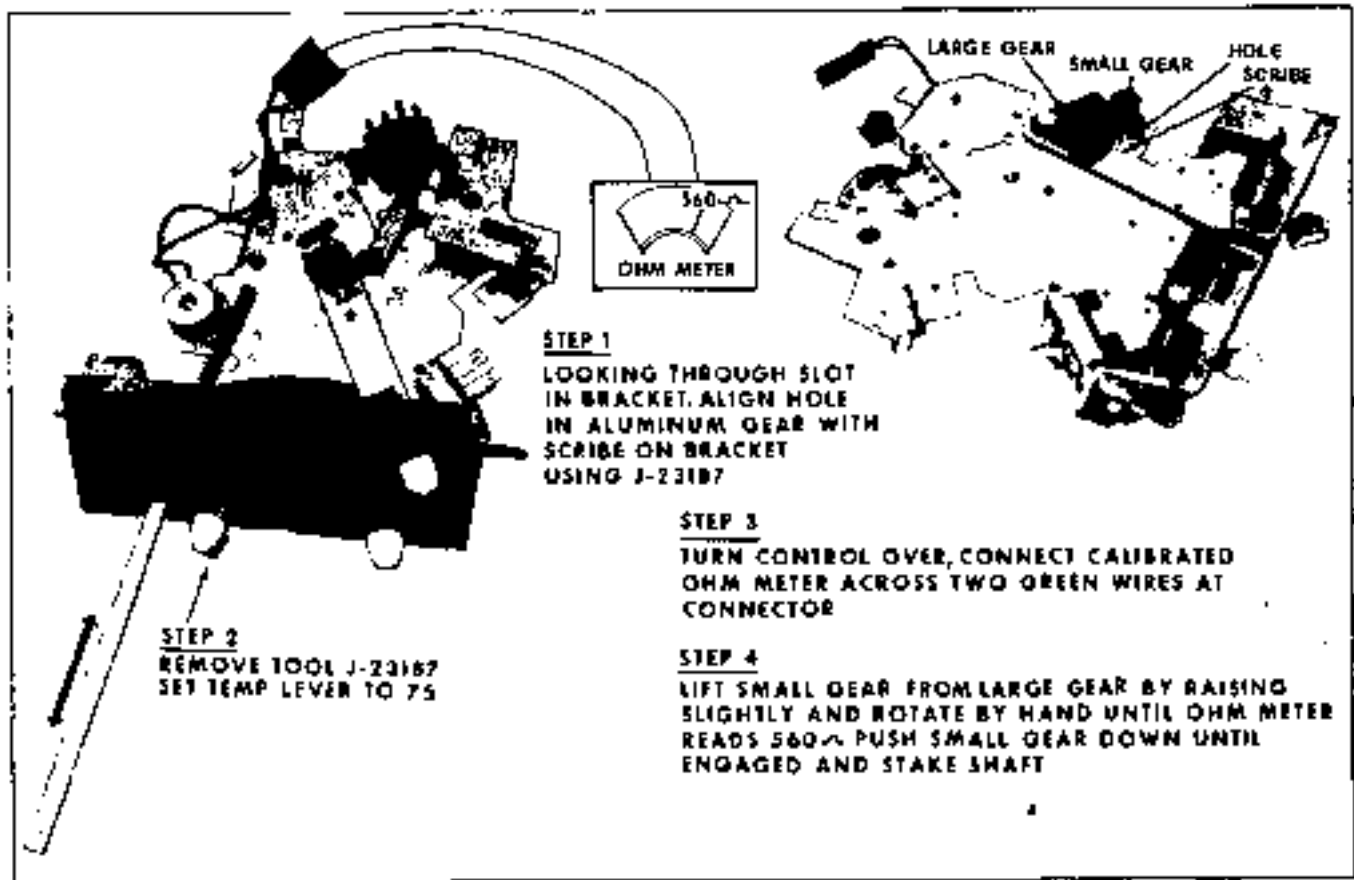

Fig. 1B-8 Using Tool J 231B7 To Adjust Variable Resistor
2. Refer to Fig. 1B-1 for in car harness routing.